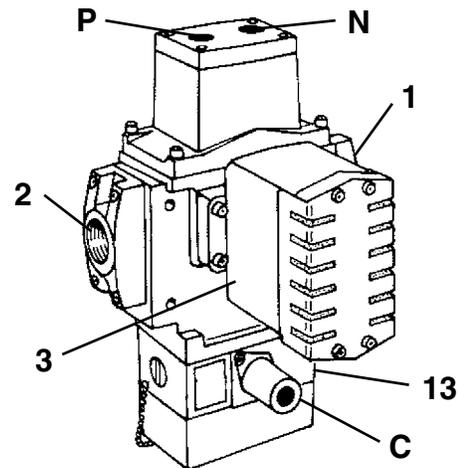

Figure 8 – External Ports and Overrides
Valve Inlet 1. (See Figure 8.) **DO NOT RESTRICT THE AIR SUPPLY.** Any restriction of the air supply lines (for example, sharp bends or undersize lines) will reduce the speed with which the outlet volume is pressurized. See *Inadequate Air Supply*, page 9, for further discussion.
1. Remove the silencer. Apply compressed air in the 30 to 125 psig (2 to 8.5 bar) range to inlet port 1 (see Figure 8). There should be no pressure at outlet port 2 or exhaust port 3.
3. Simultaneously energize both pilot solenoids, then depress manual override N (Figure 8). De-energize both